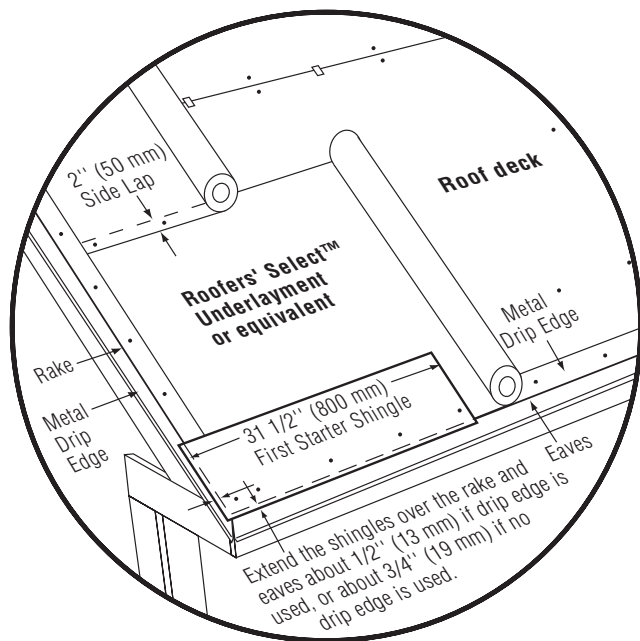

Figure 17-8: Standard slope underlayment and starter drip edge details.
- For all three shingle styles, cut  $4\frac{1}{2}$ " off the length of the left side of the first starter strip and apply at the lower left corner of the roof. This  $31\frac{1}{2}$ " starter strip should overhang the rakes and eaves  $\frac{1}{2}$ " when drip edge is used or  $\frac{3}{4}$ " when no drip edge is used. Continue with full 36" lengths of starter strips all along the eaves (Figure 17-8).